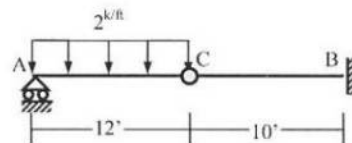

Fig. 4
4. Calculate the vertical deflection at point C of the beam shown in Fig. 4 using Virtual Work Method [Given $EI = 40,000\text{k-ft}^2$].